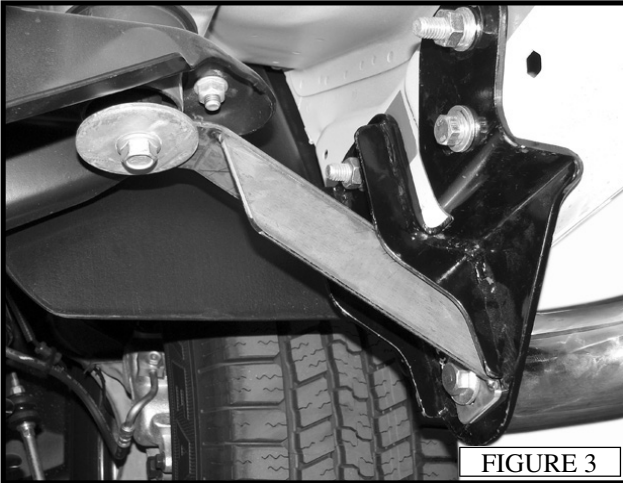

FIGURE 3
- Attach the passenger side mounting bracket to the installed stud plates using (2) M12 flat washers, (2) M12 lock washers, and (2) M12 hex nuts. Do not tighten at this time. (FIGURE 3)
- Rotate the second to front stud + nut plate so the nut lines up with the rocker panel hole, and mounting bracket slot. Insert (1) M10 bolt with (1) M10 flat washer, and (1) M10 lock washer. Do not tighten at this time. (FIGURE 3)